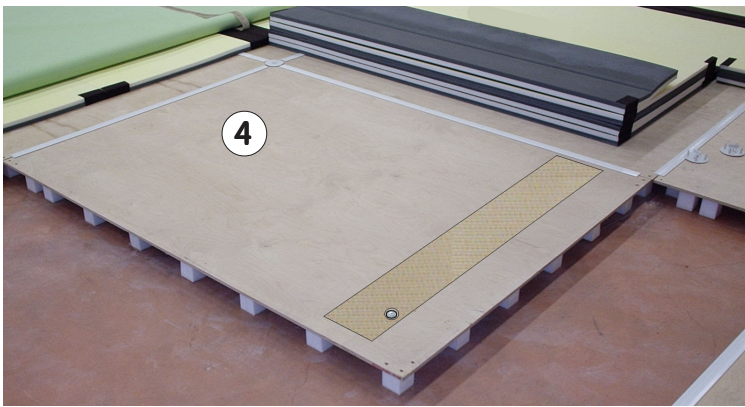
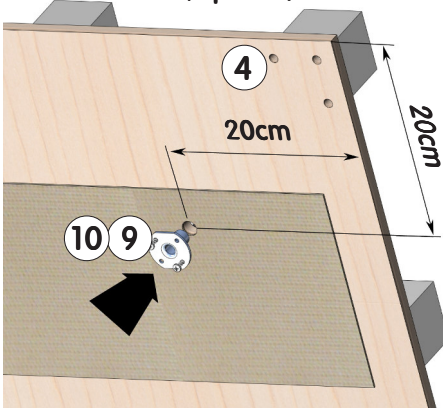

Figure 16
Figure 18
- Remove the floor edges so as to access the angle panels **(3)** and **(4)** (2 x 1.5 m) (see **Fig. 15** and **Fig. 16**).
- Install the bracing flat **(8)** using the fastenings **(5)**, **(6)**, and **(7)**, under each panel as shown in **Fig. 16**, at 45° as shown in **Fig. 18**, before tightening to prevent rotation.